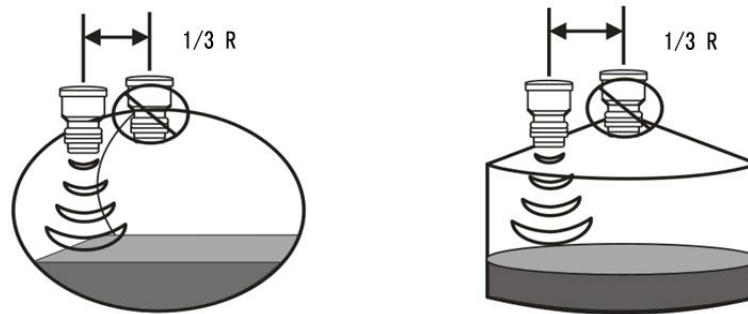

Figure 2
2. Tank shape should be considered. Some types of container bring second echo, especially conical and spherical tank. A good installation place will solve the problem, as Figure 2.